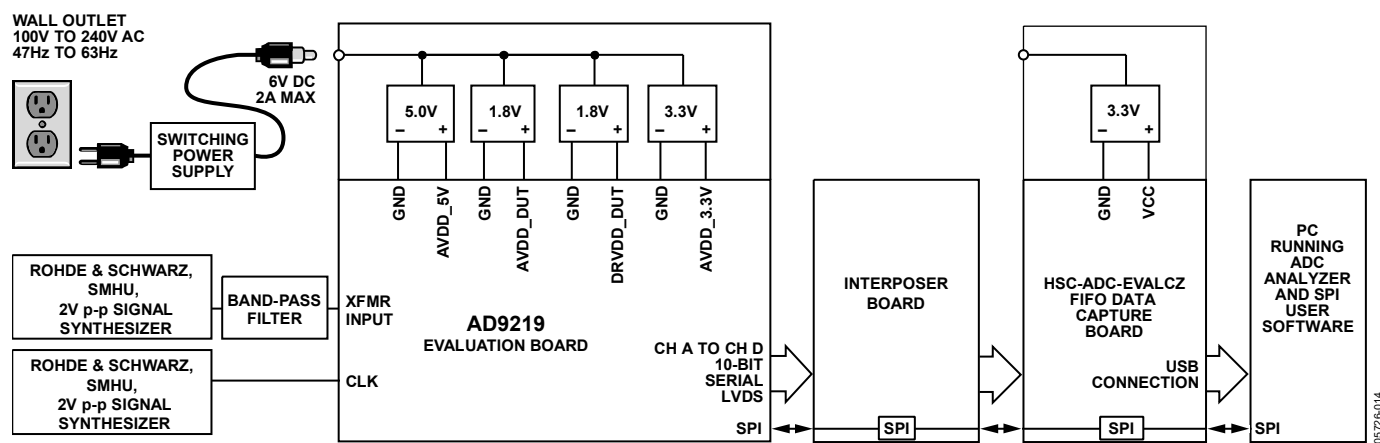
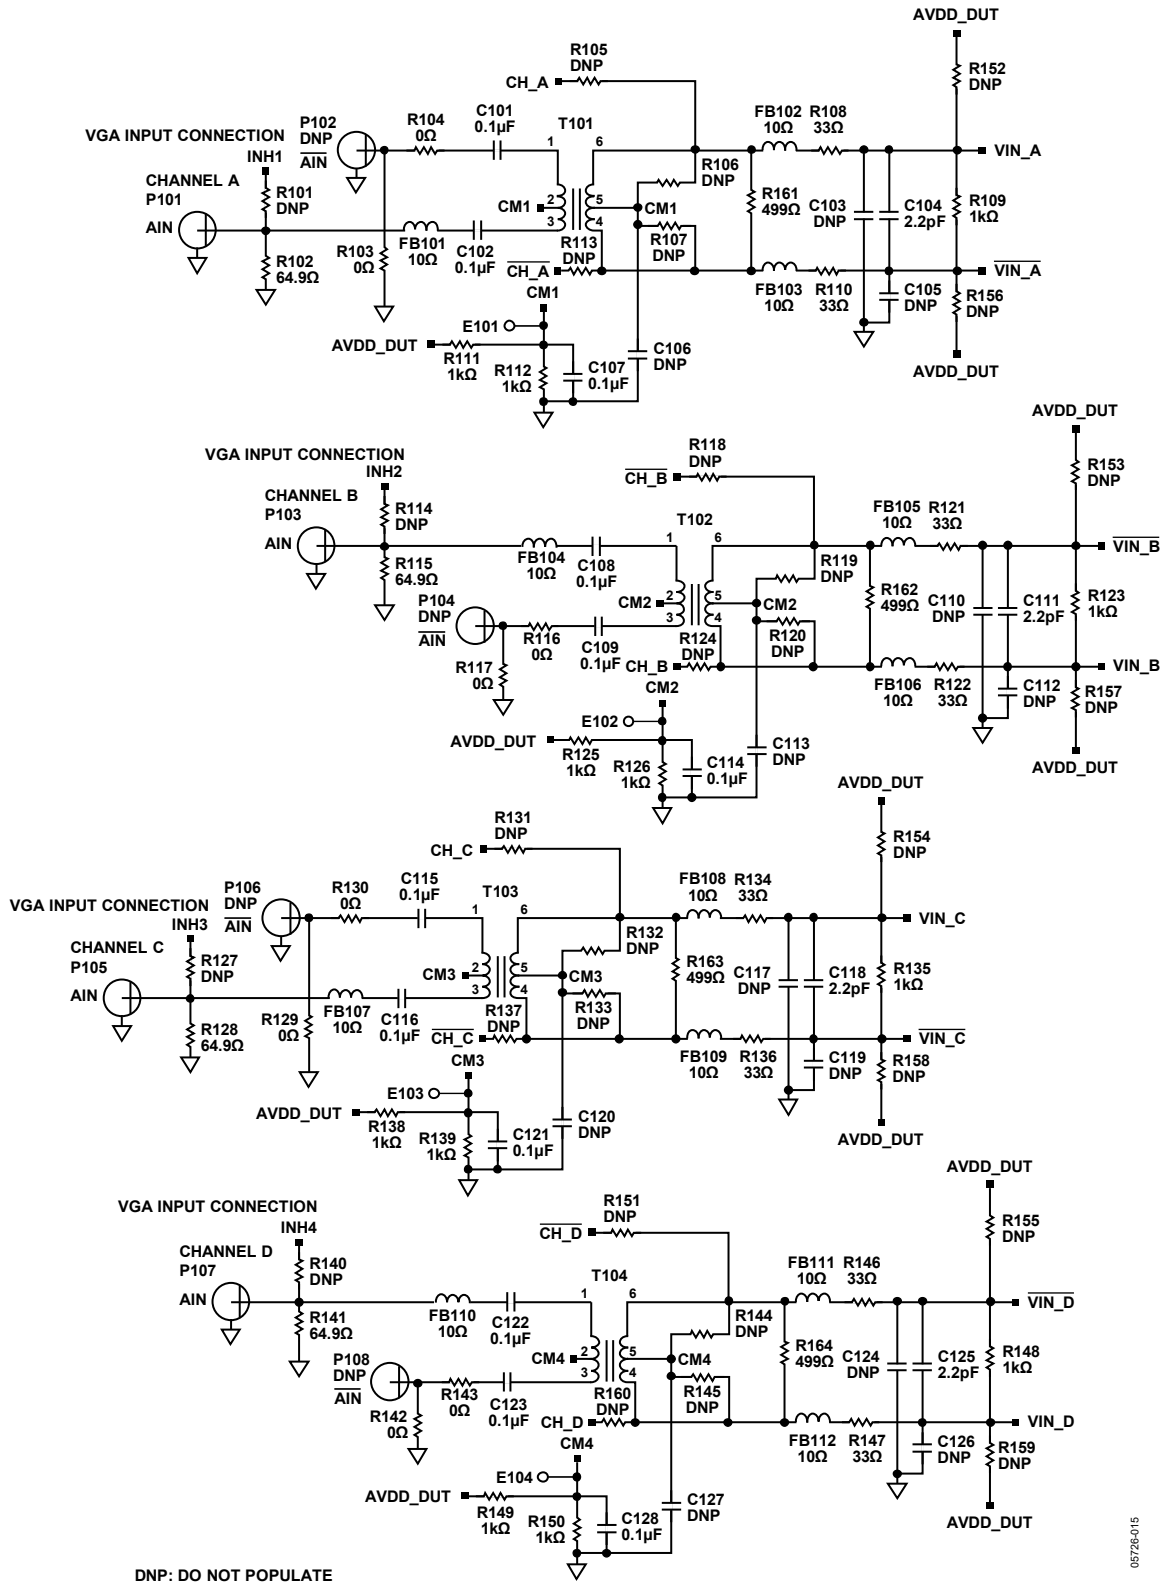
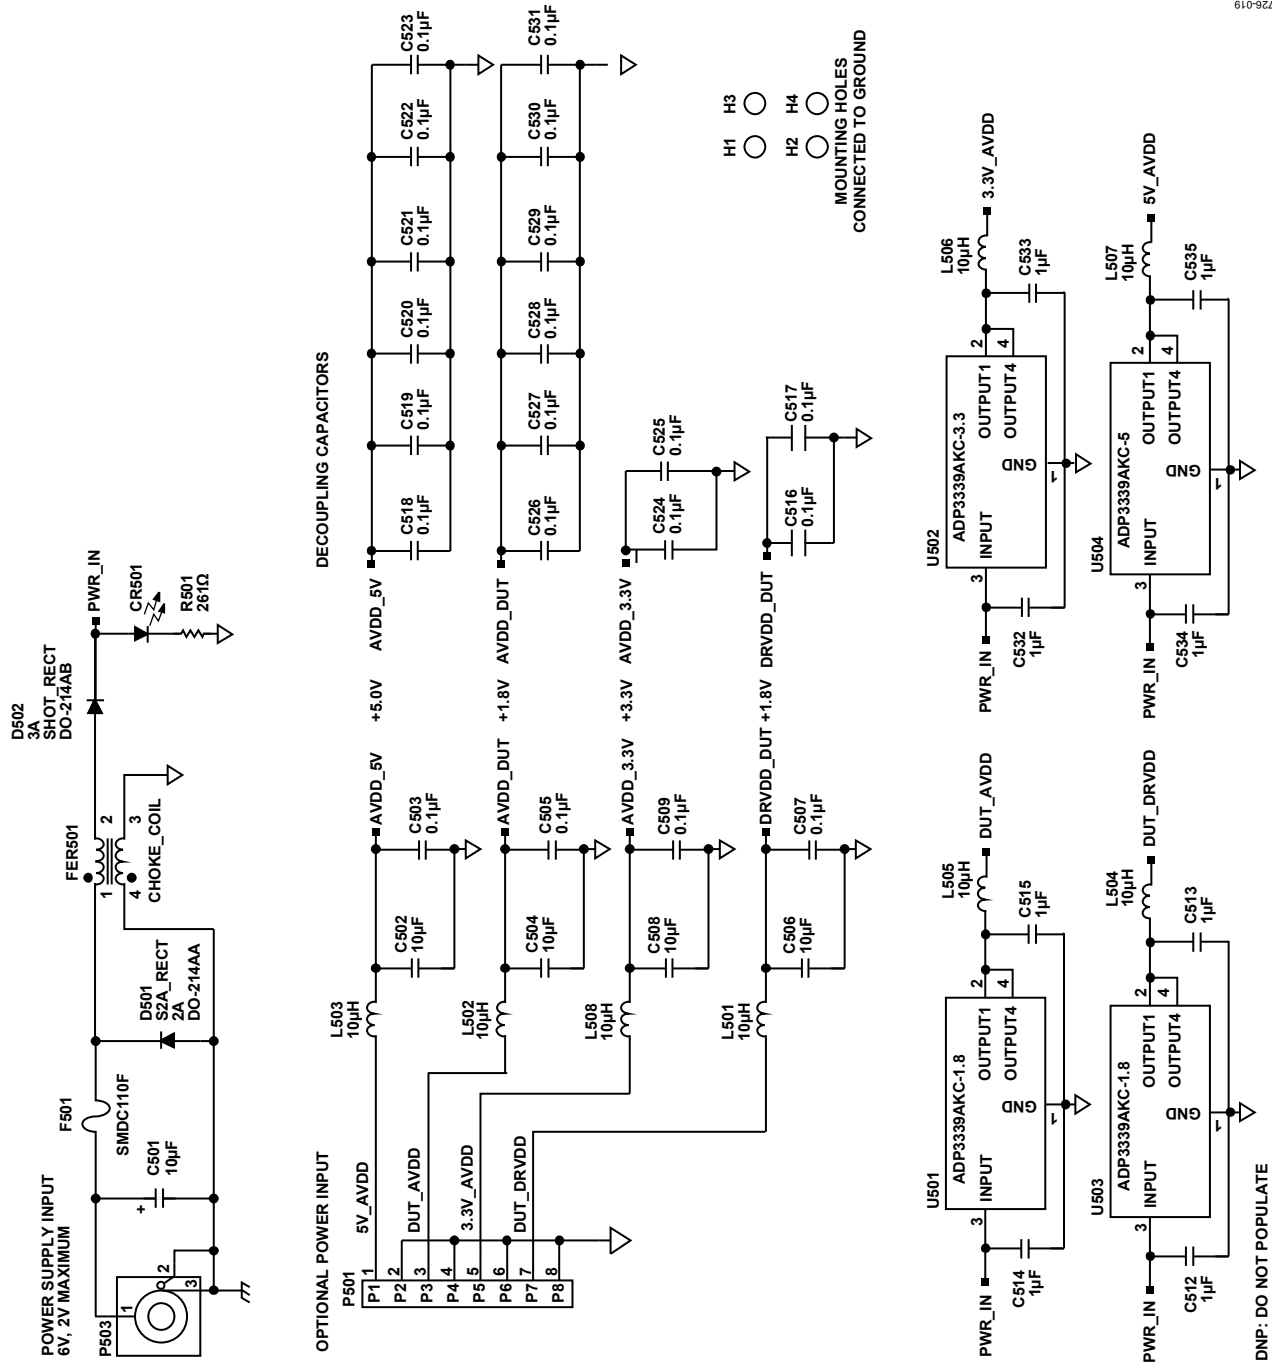

Figure 71. Evaluation Board Connection
Figure 73. Evaluation Board Schematic, DUT Analog Inputs
Figure 77. Evaluation Board Schematic, Power Supply Inputs
The AD9219 evaluation board provides all of the support circuitry required to operate the ADC in its various modes and configurations. The converter can be driven differentially using a transformer (default) or an AD8332 driver. The ADC can also be driven in a single-ended fashion. Separate power pins are provided to isolate the DUT from the drive circuitry of the AD8332. Each input configuration can be selected by changing the connection of various jumpers (see Figure 73 to Figure 77). Figure 71 shows the typical bench characterization setup used to evaluate the ac performance of the AD9219. It is critical that the signal sources used for the analog input and clock have very low phase noise (<1 ps rms jitter) to realize the optimum performance of the converter. Proper filtering of the analog input signal to remove harmonics and lower the integrated or broadband noise at the input is also necessary to achieve the specified noise performance.
See Figure 73 to Figure 81 for the complete schematics and layout diagrams demonstrating the routing and grounding techniques that must be applied at the system level.
- **D + x, D - x:** If an alternative data capture method to the setup shown in Figure 73 is used, optional receiver terminations, R206 to R211, can be installed next to the high speed backplane connector.